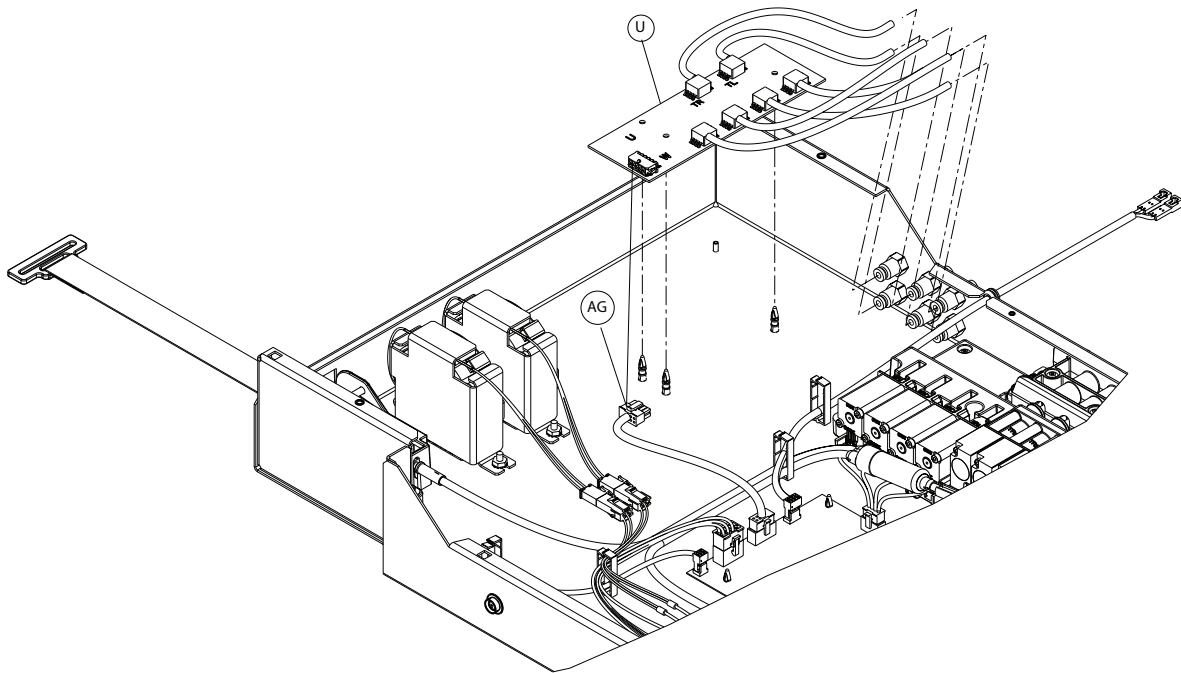

Figure 23 – Sensor board
4. Disconnect the SPI cable (AG) from the sensor board (U) (Figure 23).
5. Using needle nose pliers, lift up enough to disconnect the sensor board (U) from the three plastic standoffs.